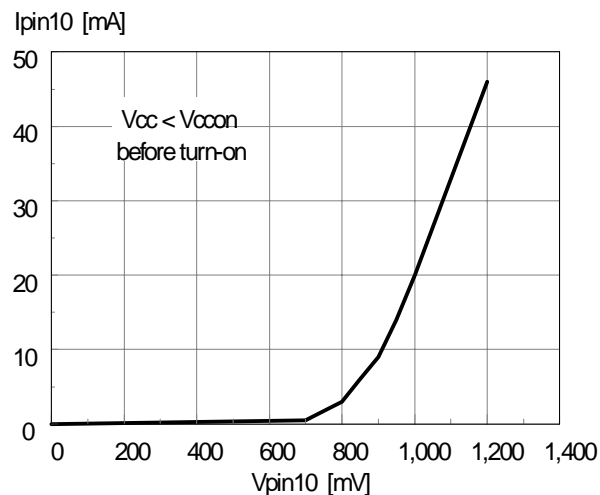

Figure 14. Timing resistor vs. switching frequency.
The oscillation frequency can be established with the aid of the diagrams of fig. 14, where R_T will be intended as the parallel of R_A and R_B in normal operation and $R_T = R_A$ in standby, or considering the following approximate relationships:
from fig. 14 or resulting from (1) and (2).